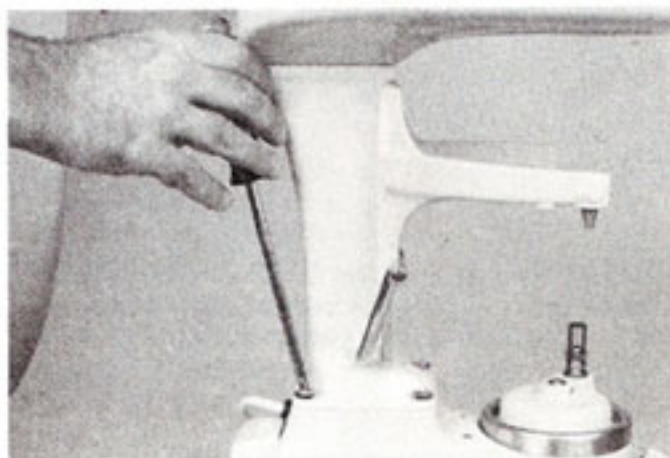

Fig. 98
- M. Place the gear case and motor housing on the column and screw in the four  $\frac{5}{16}$ "-18 x  $\frac{3}{4}$ " round head screws (Fig. 98). These screws must be tight (70 to 90 in. lbs.). Mixer is now ready for operation.